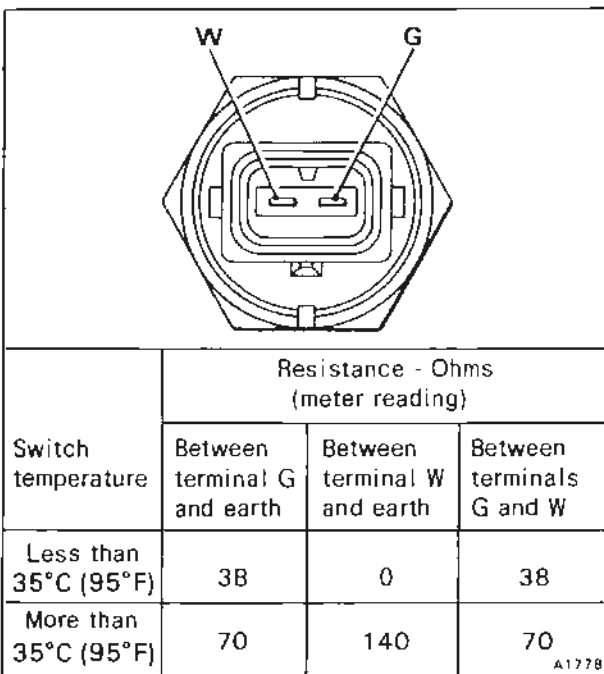

Fig. B3-29 Thermal time switch
6. Refer to figure B3-29 and measure the resistance between
Depending upon the temperature of the switch, the resistance measured should be within the values given in figure B3-29.
7. If the values do not correspond with those given in figure B3-29 fit a new switch.